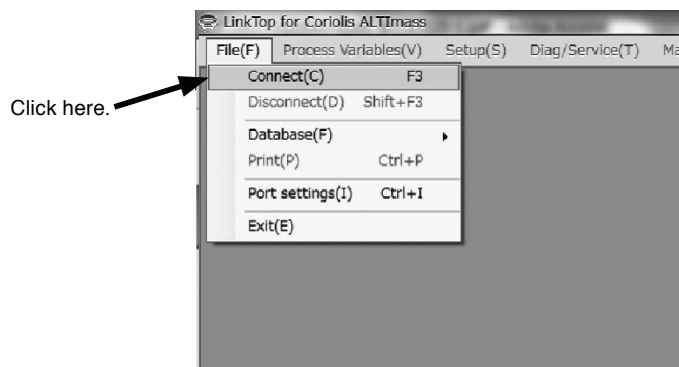

Fig.7
- ⑤ On the screen as shown in Fig. 7, click "Connect (C) F3" in "File (F)" at the top-level menu of screen.